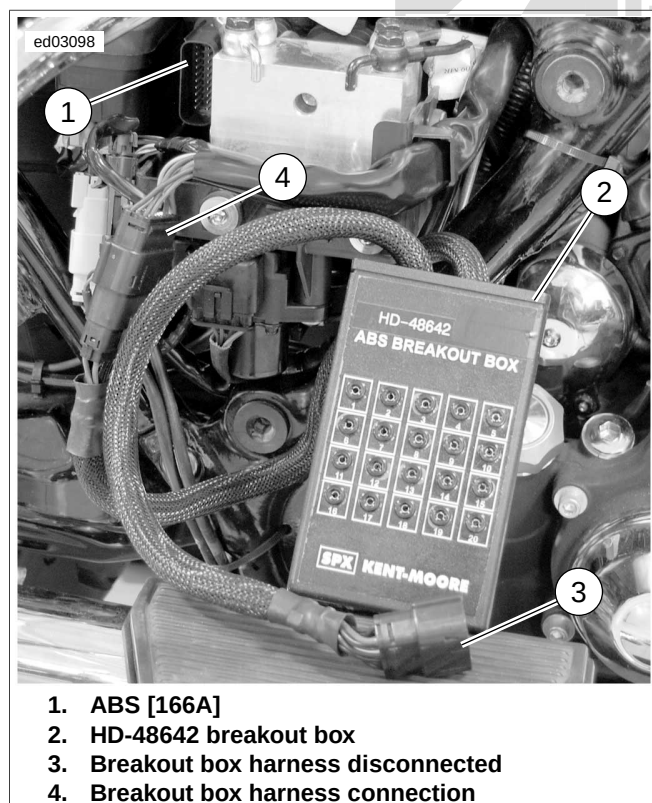

Figure 1-38. Typical HD-48642 With ABS Module Disconnected
4. See Figure 1-38. In some cases it is necessary to leave the ABS module disconnected.